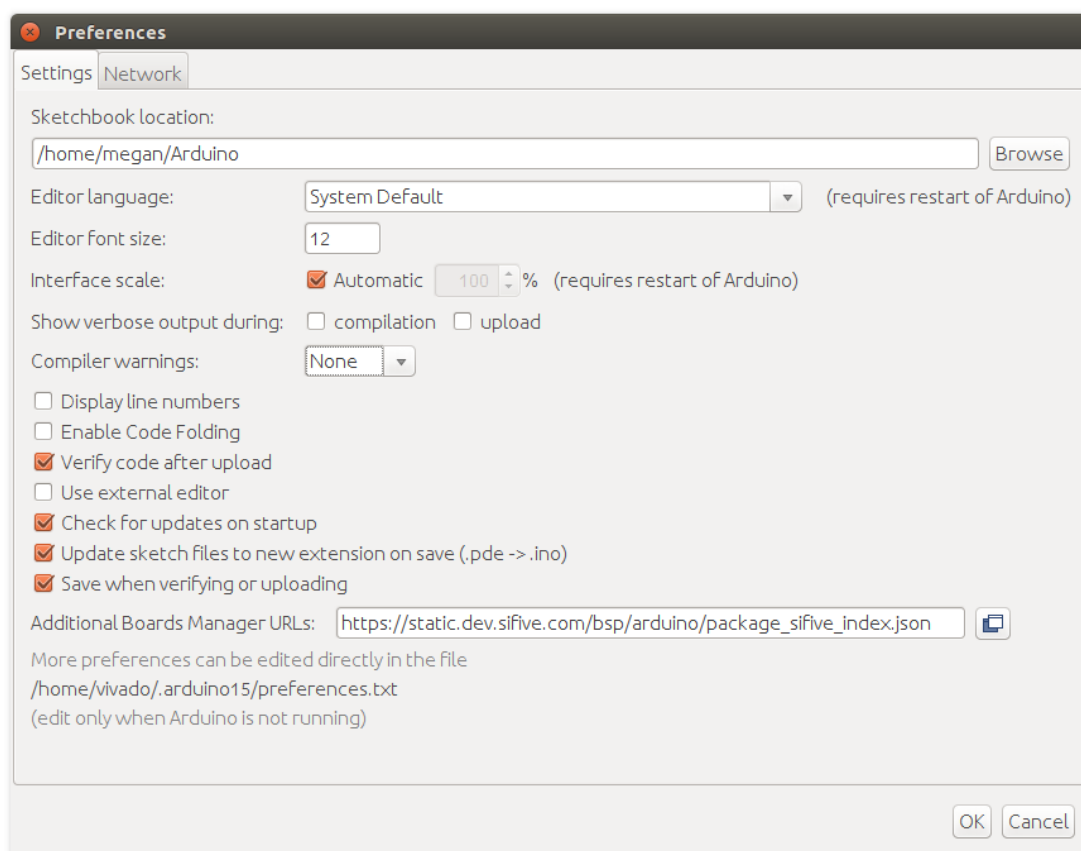

Figure 6.1: Adding the SiFive Dev Kits Board URL to your Arduino IDE
3. Navigate to `File` → `Preferences` and add the SiFive additional Board Manager URL as shown in Figure 6.1: